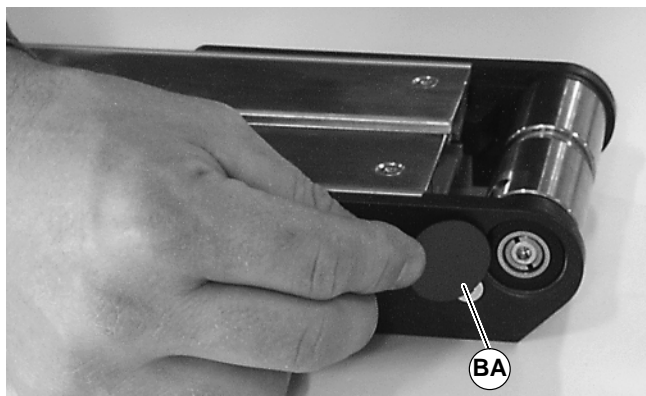

Figure 47
4. Install bearing covers (BA of Figure 47).